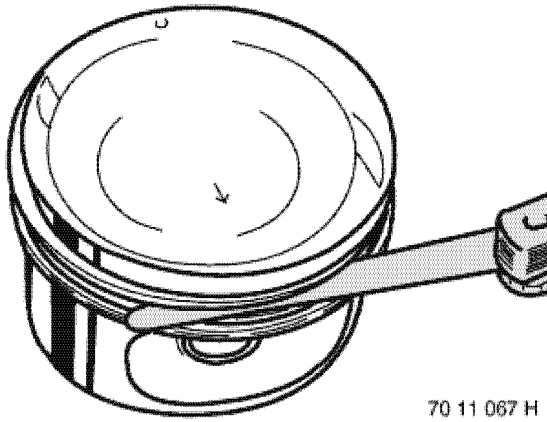

Figure 5-51
5. Install a new piston ring. Use a feeler gauge to measure the side clearance between the ring and the piston (**Figure 5-51**). Replace the piston if not within specification. Repeat with the second ring.